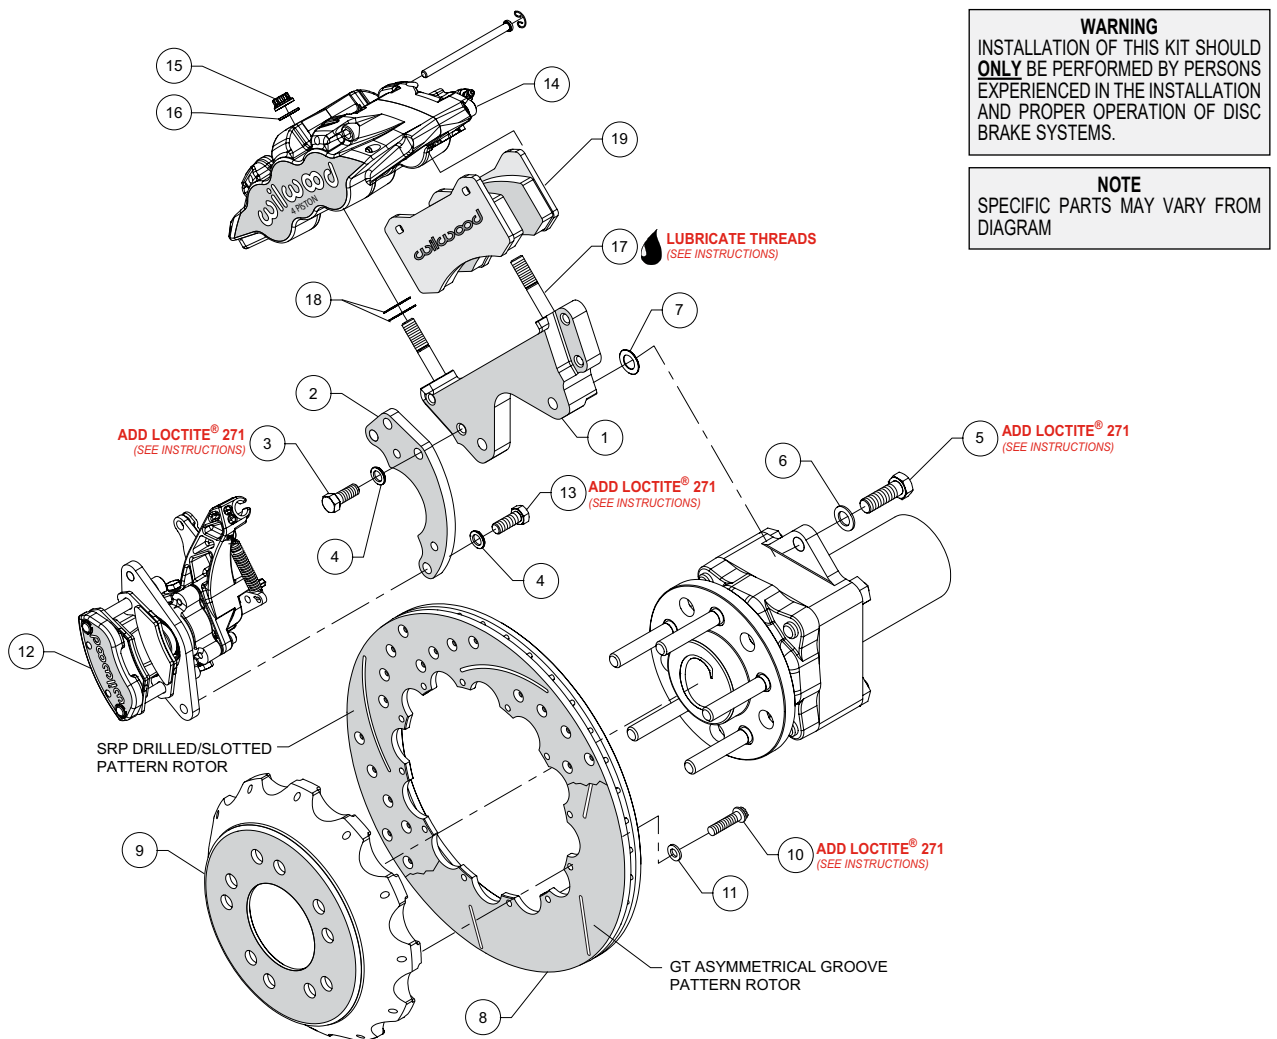
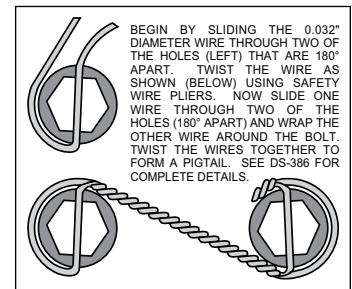

Figure 1. Typical Installation Configuration
Figure 3. Safety Wire Diagram
Assembly Instructions (numbers in parenthesis refer to the parts list and Figure 1 on the preceding pages):
- Attach the MC4 flat caliper bracket (2) to the radial mount caliper bracket (1) using bolts (3) and washers (4) as shown in Figure 1 and Photo 1. Apply red *Loctite*® 271 to the bolt threads and torque to 35 ft-lbs. **NOTE:** *The MC4 Bracket may be mounted on either end of the radial mount bracket.*
- The caliper mount bracket assembly (1/2) should initially be installed with clean, dry threads on the mounting bolts. Orient the bracket assembly as shown in Figure 1, and Photo 2, and install using bolts (5) and washers (6). Initially place one .032" thick shim (7) on each bolt between the bracket and axle hub, Figure 1. Temporarily tighten the mounting bolts. **NOTE:** *The bracket must fit squarely against the mount bosses on the axle hub.* Inspect for interference from casting irregularities, machining ridges, burrs, etc. Later, after the caliper alignment has been checked, the mount bolts will be secured using red *Loctite*® 271.
- Orient the rotor (8) and the hat (9) as shown in Figure 1 and Photo 3. Attach rotor to hat using bolts (10) and washers (11). Apply red *Loctite*® 271 to the bolt threads and torque to 155 in-lb using a criss-cross pattern. For an added measure of security, the bolts may be safety wired using standard 0.032 inch diameter stainless steel safety wire as shown in Figure 3. Please refer to Wilwood's data sheet DS-386 (available at www.wilwood.com/Pdf/DataSheets/ds386.pdf) for complete safety wire installation instructions.
- Lubricate the caliper mounting studs (17) with lightweight oil. Initially place two .030" thick shims (18) on each stud as shown in Figure 1 and Photo 5. Mount the caliper (14) onto the bracket (1) using lock nuts (15) and washers (16), Figure 1. Temporarily tighten the lock nuts and view the rotor through the top opening of the caliper. The rotor should be centered in the caliper, Photo 6. If not, adjust by adding or subtracting shims (7) between the bracket (1) and the mounting bosses. Always use the same amount of shims on each of the two mounting bolts. Once the caliper alignment is correct, remove the bracket mounting bolts (5) one at a time, apply red *Loctite*® 271 to the threads, and torque to 77 ft-lb.
- Remove the two pad retaining pins from the caliper (14) by carefully popping out the pin retaining clips and sliding out the pins. Insert the brake pads (19) into the caliper from the bottom, Figure 1 and Photo 7. With the friction material facing the rotor, secure the brake pads in place with the pad retaining pins and clips, Photo 8. Reinstall the caliper onto the caliper mounting bracket and temporarily tighten the lock nuts. Check that the top of the brake pad is flush with the outside diameter of the
- Mount the parking brake caliper (12) onto the lower section of the caliper mounting bracket assembly (1/2) using bolts (13) and washers (4), as shown in Figure 1 and Photo 10. Apply red *Loctite*® 271 to bolt threads, and torque to 30 ft-lb.